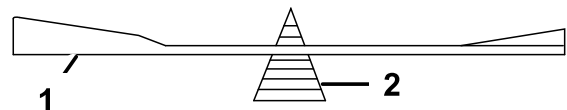

Figure 55
2. Check the balance of the blade by putting it on a blade balancer (Figure 55).